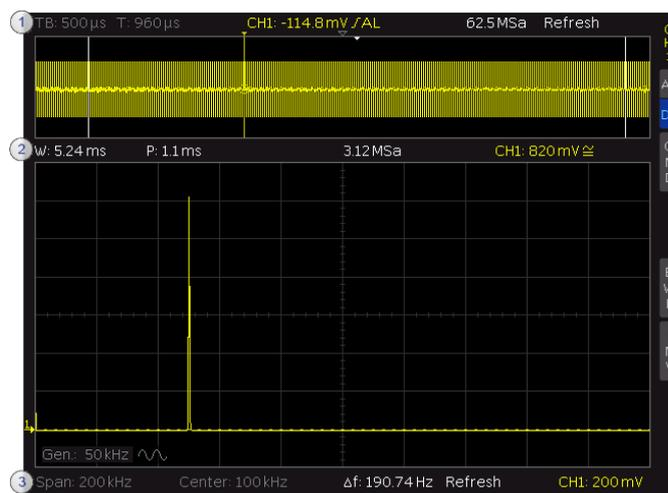

Fig. 37: Setup of FFT mode.
The screen is split into two panes; see Fig. 37. The upper pane (①) displays the previously defined voltage-time trace for the measured signal and the settings for the horizontal system.